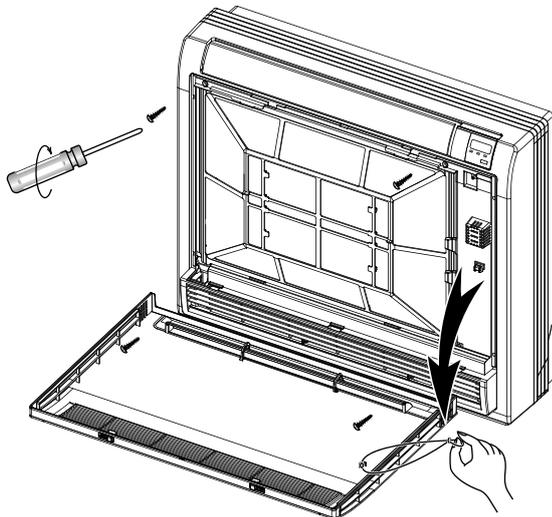

Fig.7-2
- Remove the fastening string. (Refer to Fig. 7-2)
- Remove the four screws. (Refer to Fig. 7-2)